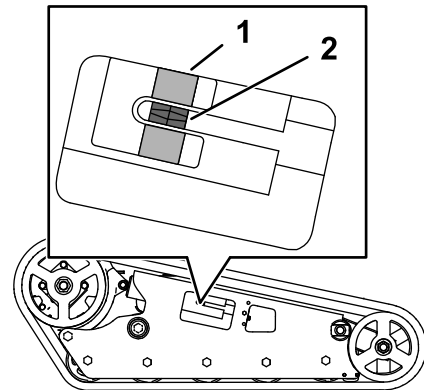

Figure 58
Verify that the tension block is aligned with the green guide on the decal or that the block is 1.3 cm (1/2 inch) away from the rear of the tension tube slot (Figure 58). If it is not, adjust the track tension using the following procedure:
4. Using a 1/2 inch drive ratchet, turn the tensioning screw counter-clockwise until the tension block aligns with the green guide on the decal or is 1.3 cm (1/2 inch) away from the rear of the tension tube slot (Figure 58).